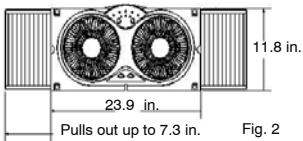

Fig. 2
- This window fan has been designed to fit double-hung, slider and casement windows with minimum openings of 24.4 in. wide and 13 in. high. (Fig. 2)